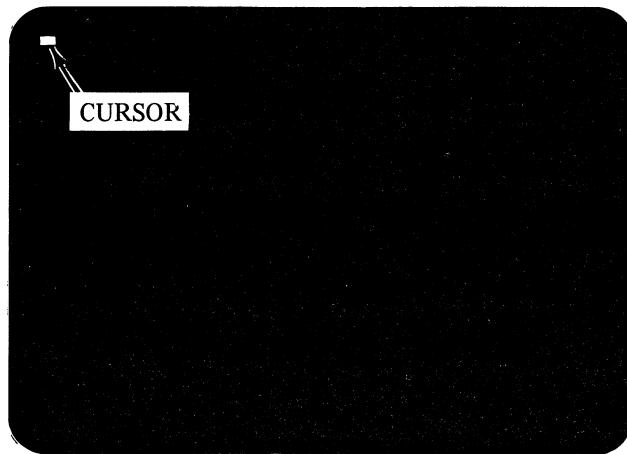

Figure 74. Cursor
The cursor, as shown in Figure 74, is a special symbol that resembles an underscore. It is displayed beneath a character or character position on the screen to indicate where the next character entered from the keyboard will be displayed.
- Turning on the display station causes the cursor to be displayed in the first location on the screen (Figure 74.), following a command from the application program to unlock the keyboard.